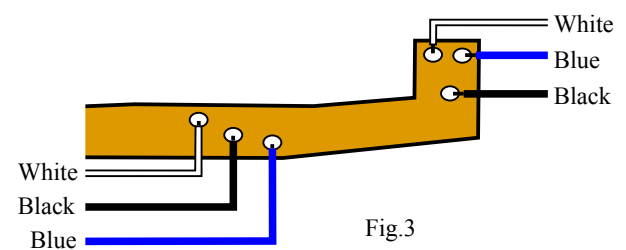

Fig.3
- Solder 6 wires of the power brush on the FPC B3. (ref. Fig.3)